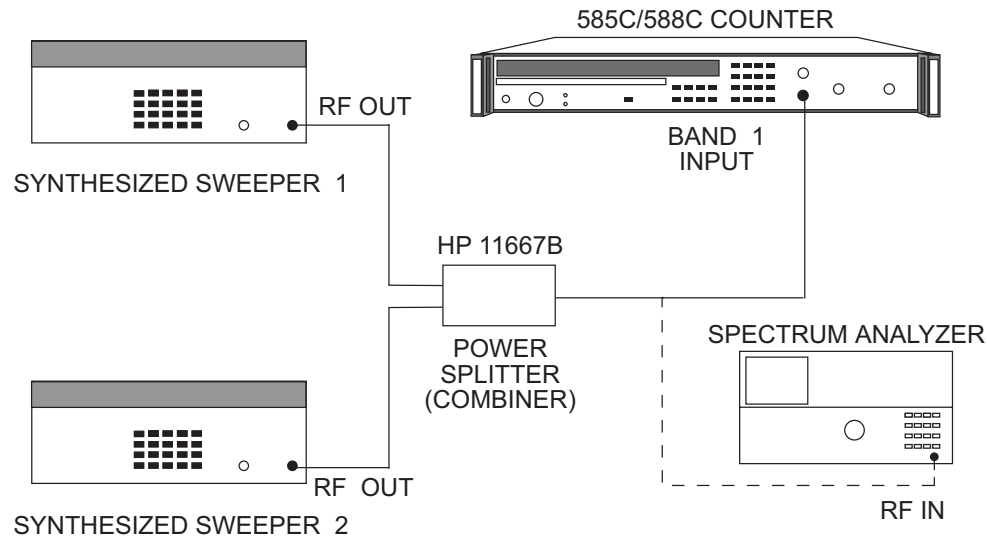

Figure 6-6. Band 1 Amplitude Discrimination Test Setup
1. Connect the equipment as shown in Figure 6-6.